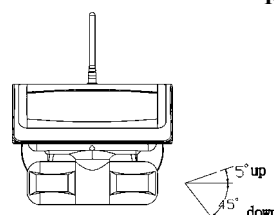

Figure 4
- The camera and PIR which under the main solar panel cabinet can be swiveled upward to 5°, downward to 45° (refer to Figure 4) and 90° horizontally (refer to Figure 5)